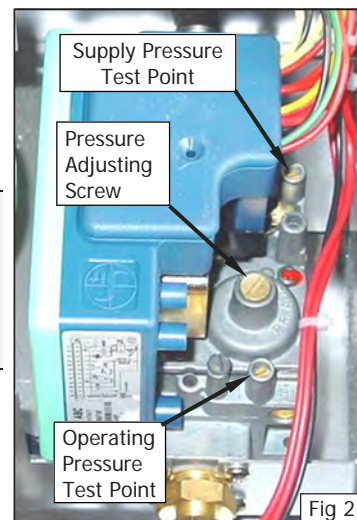

Fig 2
9. Check Main Burner operating pressure (Adjust, using 'Operating Pressure Adjusting Screw' on the gas control valve, see Fig 2), and as shown in 'Gas Conversion and Specifications' section, 'Main Burner Operating Pressure Adjustment'.